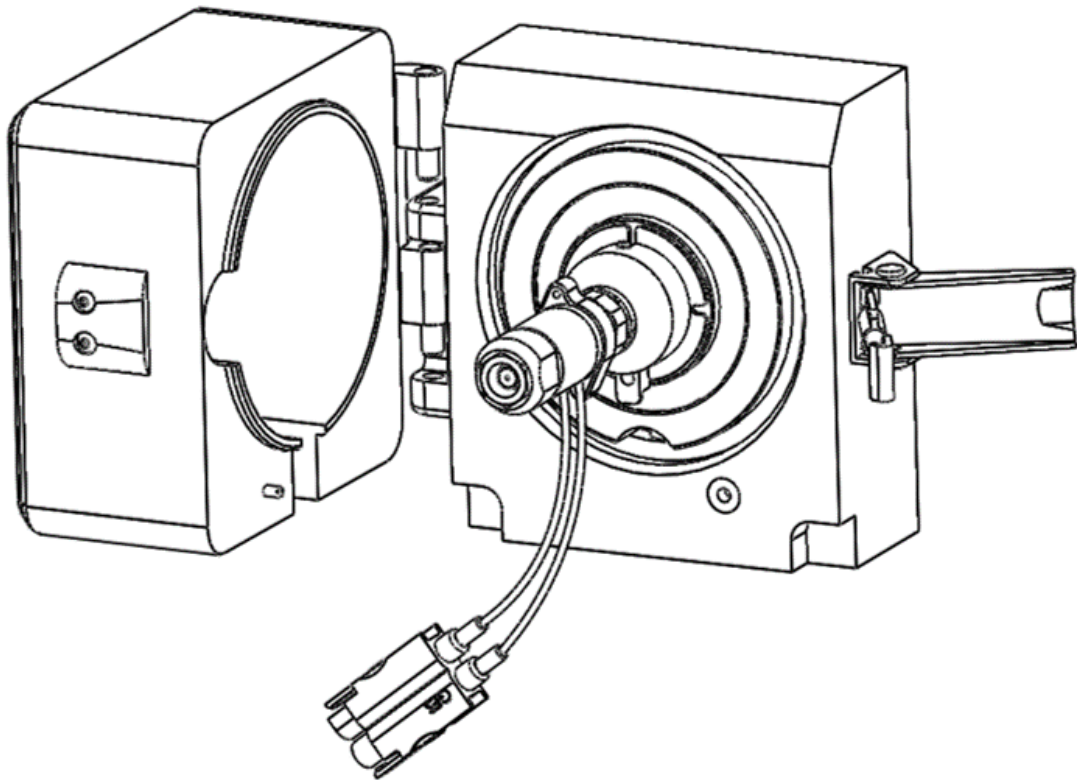

Figure 7: Hooking of the SICRIT® Source housing on the MS.
- Hook on the source housing by placing the mounting bolts in the guides of the MS (see Fig. 7).